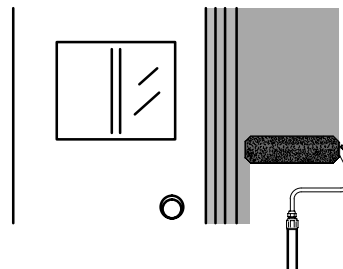

Fig. 8
2. With the roller, apply paint to the walls, following the Roller Techniques described above. (Fig. 8.)